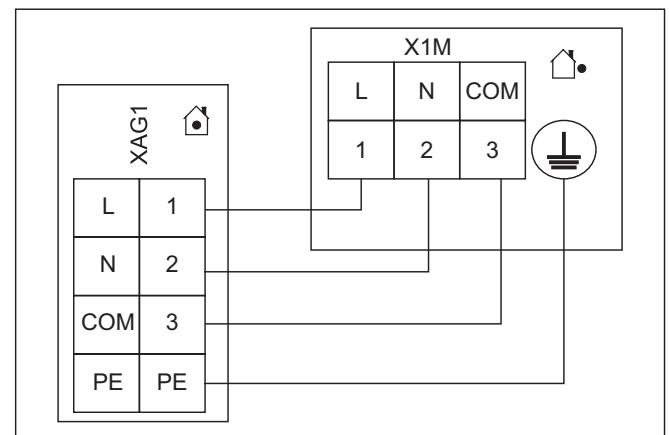

Fig. 4-35 Connecting the heat pump outdoor unit
- 2 Connect the heat pump outdoor unit to terminal strip XAG1 (see Fig. 4-35).